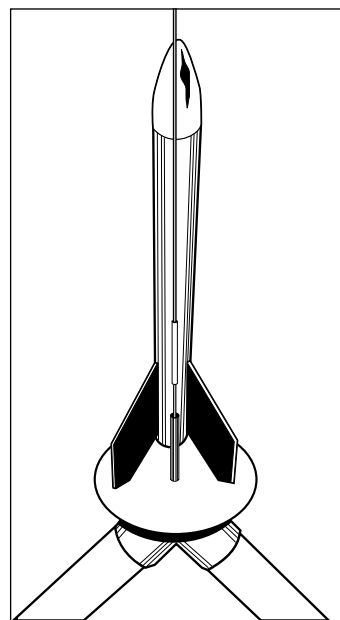

Figure 4
1. Slip the rocket onto the Launch Pad by threading the rod through the rocket's launch lug (Figure 4).
2. Set the rocket on the thrust plate of the Launch Pad (Figure 4).